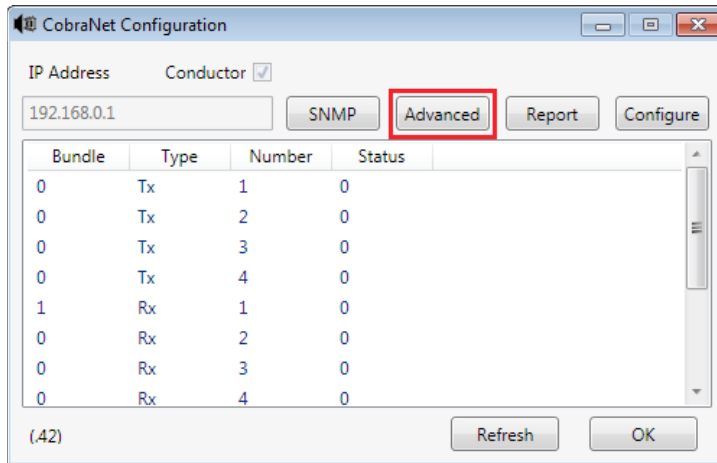

Figure 16: CobraNet Configuration
- In the CobraNet Configuration window (Figure 16), click **Advanced**.
3. In the *CobraNet Configuration* window (**Figure 16**), click **Advanced**.
5. Back in the *CobraNet Configuration* window (**Figure 16**), click **SNMP**.